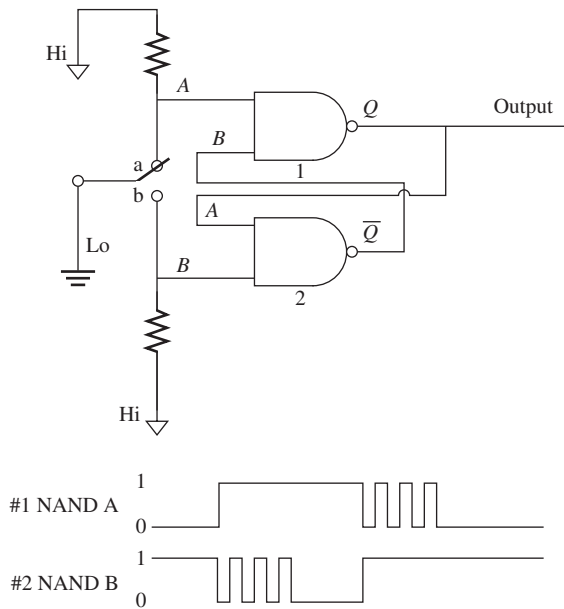

FIGURE P10.68 A logic circuit and its input.
10.68 (H) Analyze the circuit shown in Figure P10.68 and provide the output waveform based on the input waveform.